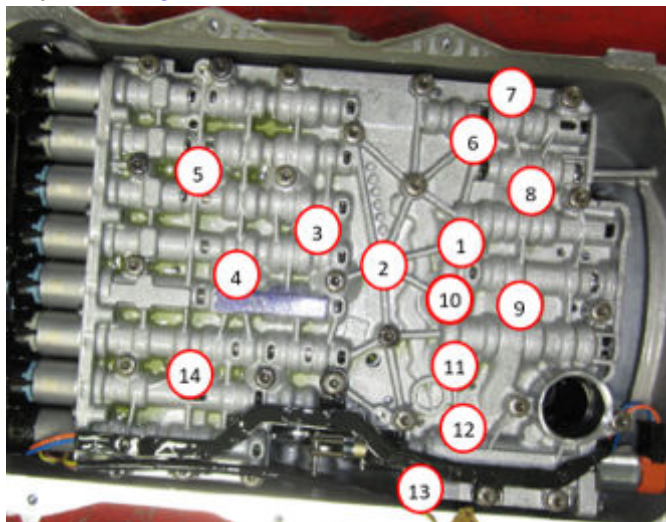

Fig. 42
65. Install the valve body assembly bolts Fig. 42.